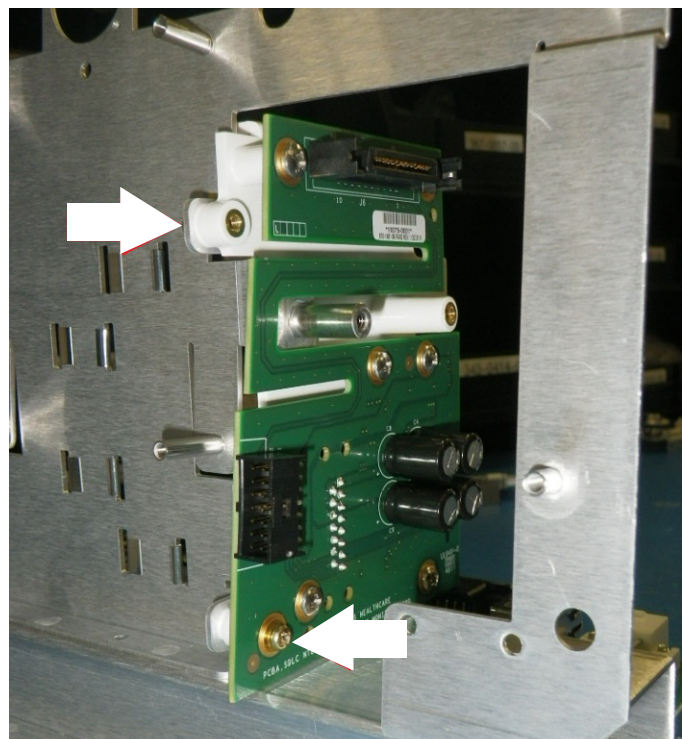

Figure 4-13 SDLC Interface
- 4** Remove the two screws shown in Figure 4-13 on page 4-19.
- 5 Remove the two screws from the SDLC Interconnect as shown in Figure 4-13.